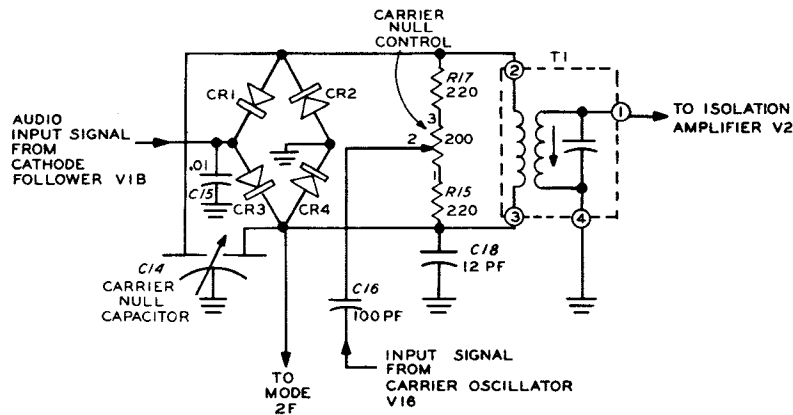

Figure 2-8
**Balanced Modulator (Figure 2-8)**